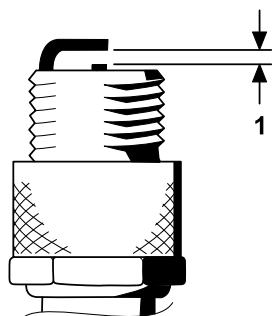

Figure 34
4. Set the air gap between the center and side of the electrodes at 0.76 mm (0.030 inches) as shown in Figure 34.